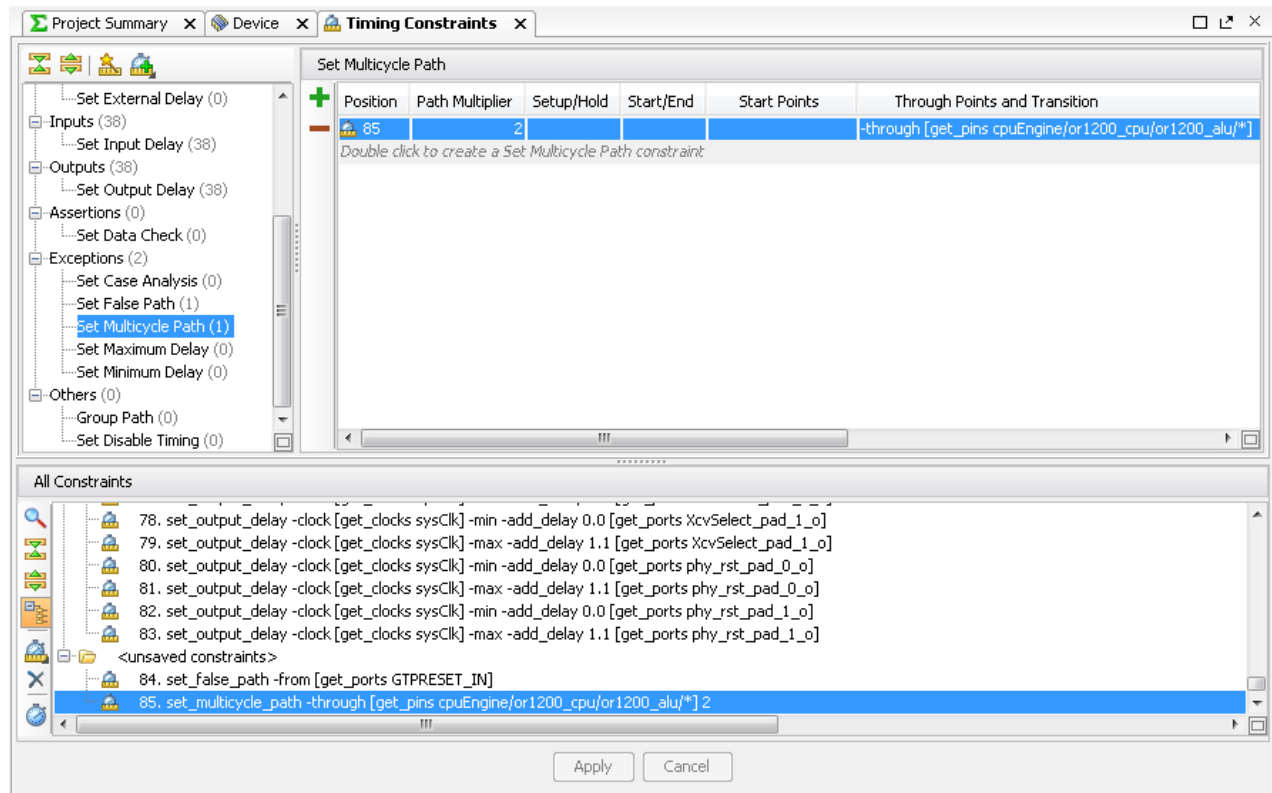

Figure 18: New Multicycle Path Added to the Constraints Editor
- d. Click **OK**. A new multicycle path will be added to the constraints editor in the **<unsaved_constraints>** section as shown in Figure 18.